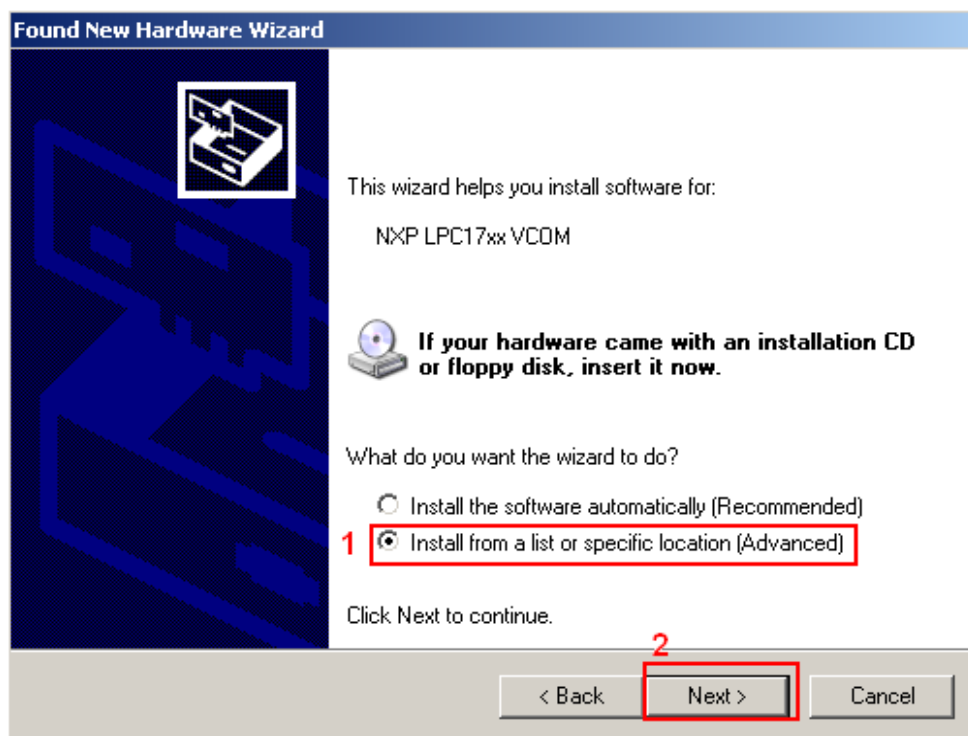

Fig. 1.3.2 Driver installation
2. In the next window select „Install from a list or specific location (Advanced)“ (Fig. 1.3.2).